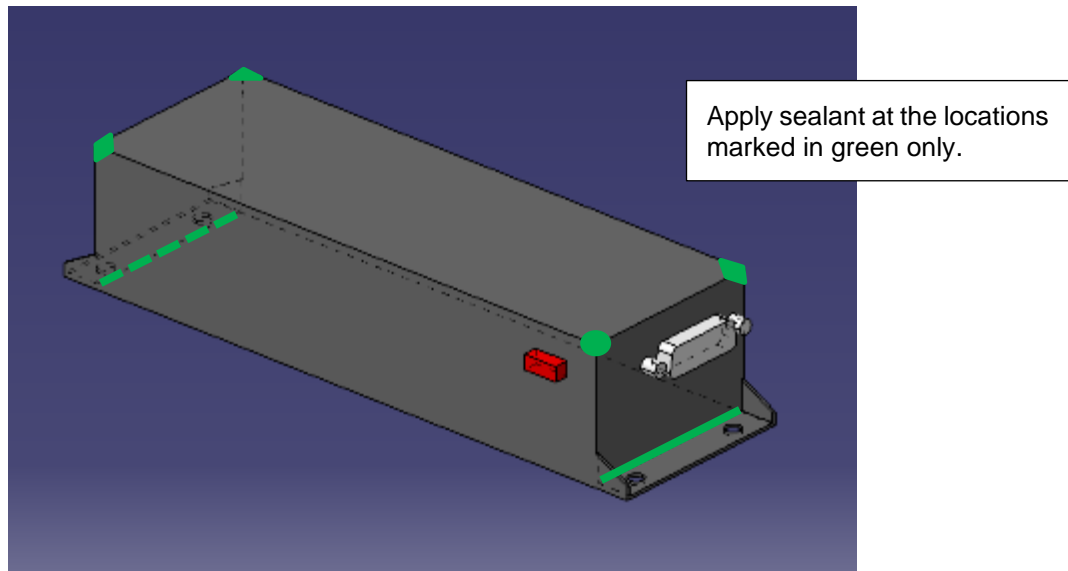

Figure 6 – Sealing Battery
8. Apply sealant, Item 1 of Table 8, to the battery as shown in Figure 6.